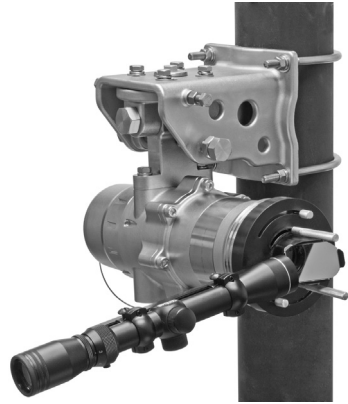

Figure 26— LS2000 with Alignment Tool Installed
6. Install the Alignment Tool onto the receiver module by inserting the captive thumbscrews into the threaded holes on the faceplate. See Figure 26. Ensure that the alignment tool is properly attached, that the eyepiece is accessible, and that the thumbscrews are completely tightened.